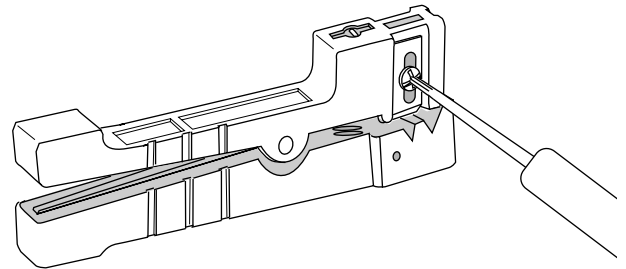

Figure 8
5.2 Before using the stripper, make sure that it is properly adjusted. Use a small Phillips head screwdriver to adjust *one* of the blades on the side of the buffer tube cutter so that it seats against the lower jaw but does not force the jaw open (Figure 8).